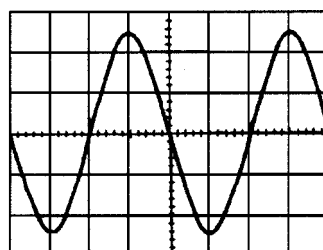

Figure A3.1
- 1 A conductor, 25 cm long is situated at right angles to a magnetic field. Determine the strength of the magnetic field if a current of 12 A in the conductor produces a force on it of 4.5 N. (3)
- 2 An electron in a television tube has a charge of $1.5 \times 10^{-19} \text{C}$ and travels at $3 \times 10^7 \text{m/s}$ perpendicular to a field of flux density $20 \mu\text{T}$. Calculate the force exerted on the electron in the field. (3)
- 3 A lorry is travelling at 100 km/h. Assuming the vertical component of the earth's magnetic field is $40 \mu\text{T}$ and the back axle of the lorry is 1.98 m, find the e.m.f. generated in the axle due to motion. (5)
- 4 An e.m.f. of 2.5 kV is induced in a coil when a current of 2 A collapses to zero in 5 ms. Calculate the inductance of the coil. (4)
- 5 Two coils, *P* and *Q*, have a mutual inductance of 100 mH. If a current of 3 A in coil *P* is reversed in 20 ms, determine (a) the average e.m.f. induced in coil *Q*, and (b) the flux change linked with coil *Q* if it wound with 200 turns. (5)
- 6 A moving coil instrument gives a f.s.d. when the current is 50 mA and has a resistance of 40Ω . Determine the value of resistance required to enable the instrument to be used (a) as a 0–5 A ammeter, and (b) as a 0–200 V voltmeter. State the mode of connection in each case. (6)
- 7 An amplifier has a gain of 20 dB. Its input power is 5 mW. Calculate its output power. (3)
- 8 A sinusoidal voltage trace displayed on a c.r.o. is shown in Figure A3.1; the 'time/cm' switch is